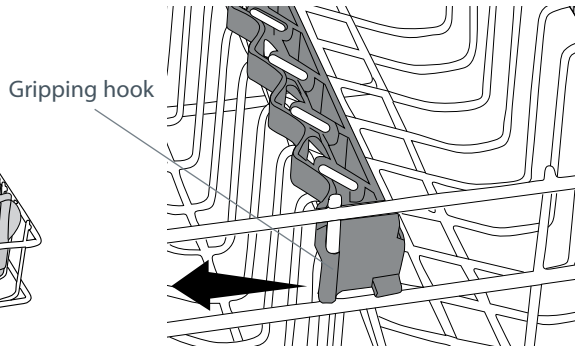

Fig. 19 Removing the glass support insert
- You can remove the glass support insert by pulling the gripping hooks away from the upper basket wire (see Fig. 19). This will give you more space for bigger items.